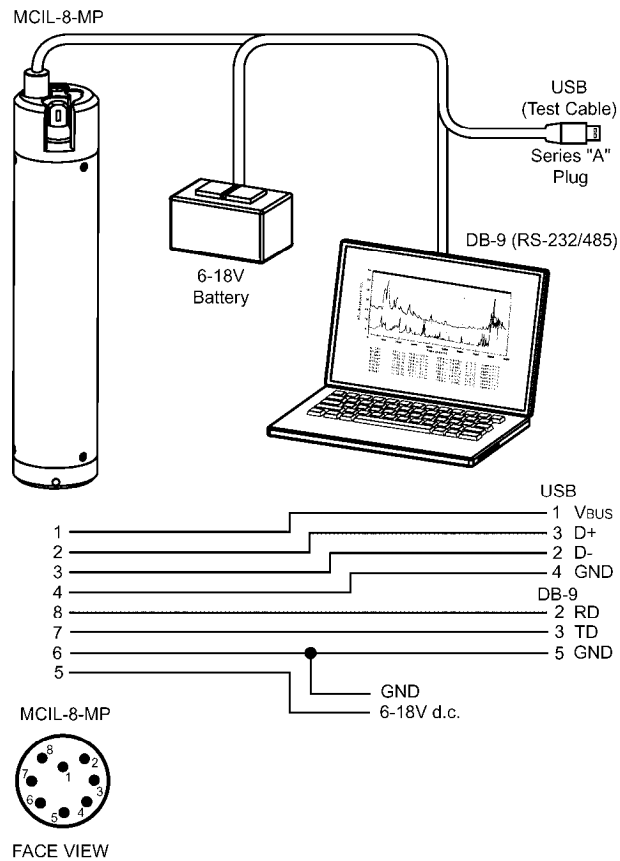

FIGURE 3.2-4. Connections and Wiring of Field Cable
3. Connect the OBS-3A to a PC with the test cable (FIGURE 3.2-4).